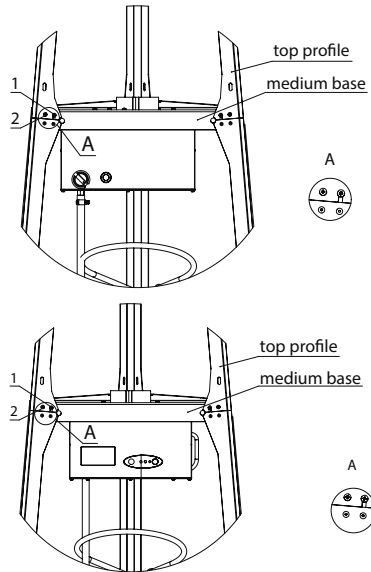

Fig.10 - Installing the top profiles
- Install the profiles on the bottom of the pre-assembled part of the gas heater (Fig. 10). To do this, make a screw in the middle base, which corresponds to a slot in the profile (near the center hole). Install